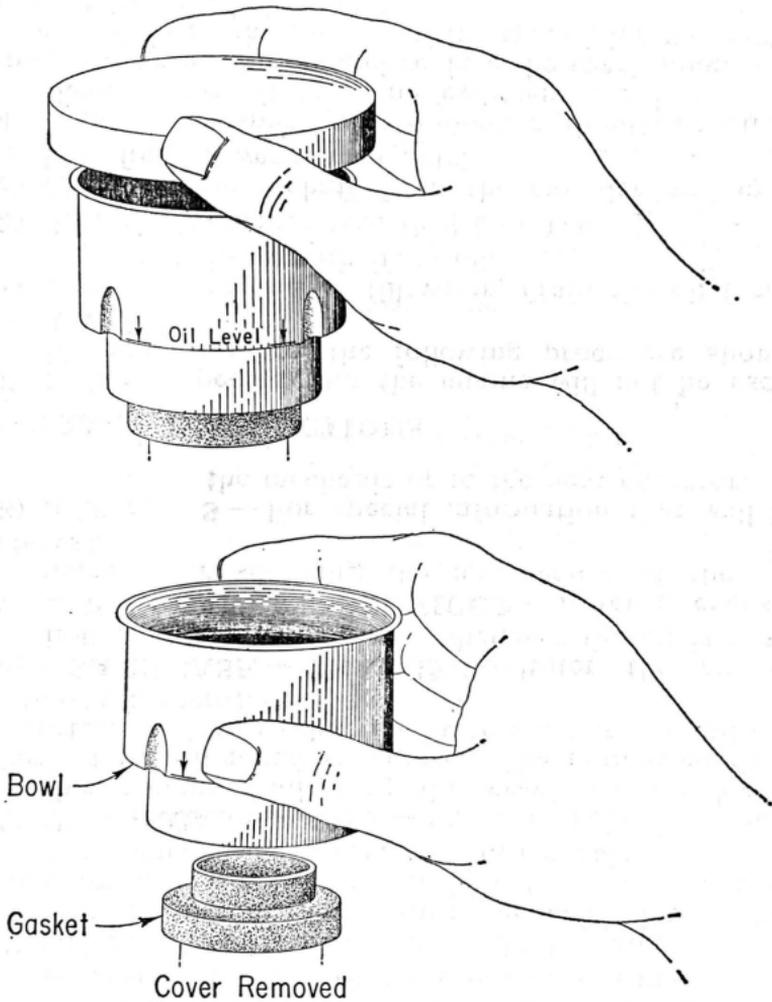

Fig. 14
11.01 The oil bath air cleaner, illustrated in Fig. 14, is a superseded type and has been replaced by the oil-foam air cleaner.